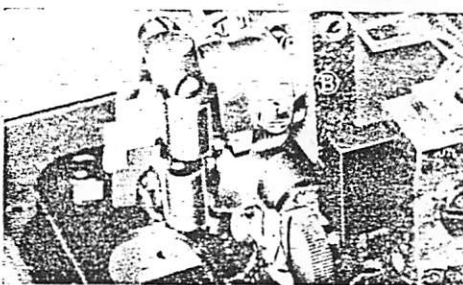

Fig. 35
In case of making adjustment, first loosen the overlooper crank screw (A) (Fig. 35), and then adjust the overlooper crank to the proper angle by means of two adjusting screws (B).
When the overlooper's thread hole goes past the needle on its rightward travel, the overlooper maintains a clearance with the left needle, but touches the right needle and bends it slightly. If the overlooper does not operate this way, loosen two set screws (A) (Fig. 35) for the overlooper lever and move the lever forward or back as required. After the adjustment, tighten the two set screws securely. Also, see that when the hole in the tip of the overlooper is in line with the left needle, the needle holes are level with the lower edge of the overlooper.